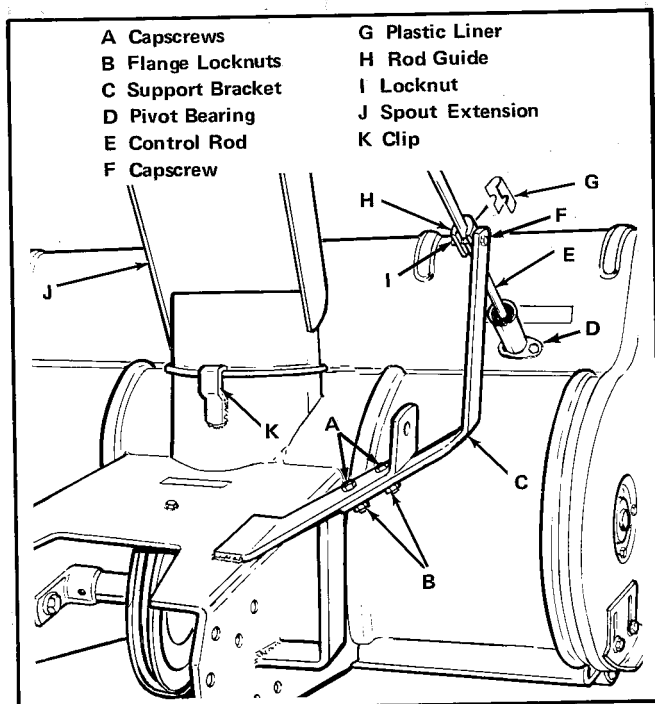

Figure 15. Installing Spout Control
1. Install support bracket (item C, figure 15) as shown with two $3/8 \times 1$ inch (9.5 x 25.4 mm) capscrews and flange locknuts (items A and B).
2. Insert end of spout control rod (item E, figure 15) through plastic pivot bearing (item D) on auger housing. Install a $3/32 \times 5/8$ inch (2.4 x 16 mm) cotter pin in the lower rod hole on the inside of the housing, and spread
3. Place the thin plastic liner (item G, figure 15) inside the rod guide (item H).
4. Install rod guide and liner over spout control rod as shown. Attach rod guide to support bracket with a $5/16 \times 1-1/8$ inch (10 x 28.5 mm) capscrew and a locknut (items F and I, figure 15). Tighten locknut (usually flush with end of capscrew) so control rod is held firmly but is still free enough to turn inside of rod guide.
5. Install the spout extension (item J, figure 15) on the housing opening so the clip (item K) on the housing is positioned in the notch on the spout extension. Then rotate spout extension slightly to start its rim under the clip. Oil mating surfaces so spout extension rotates freely.